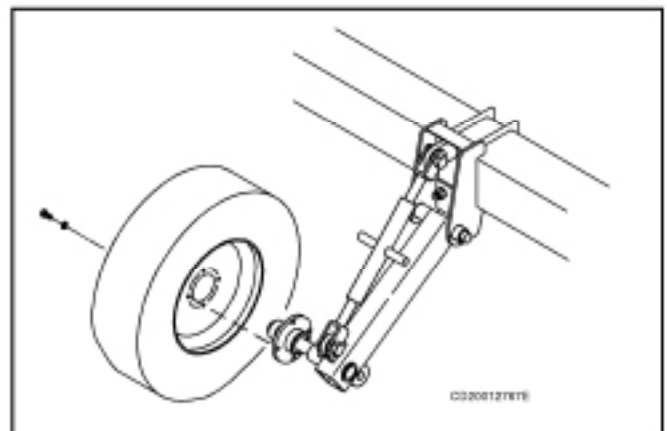

Figure 31 Fastening Tire & Rim Assembly
4. Fasten tire and rim assembly, using bolts provided in hub as shown in Figure 31.